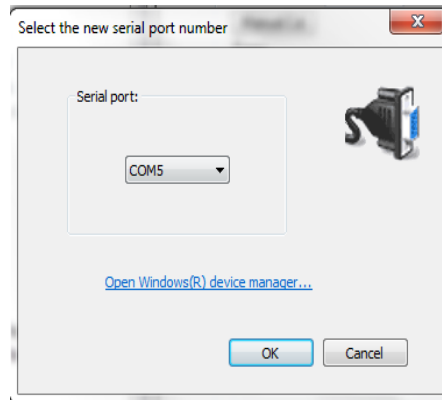

Figure 3. Serial Communications Dialog Box.
8. From within Sequence, select **View>Options>Communications**. The Serial Communications dialog box will open (Figure 3).